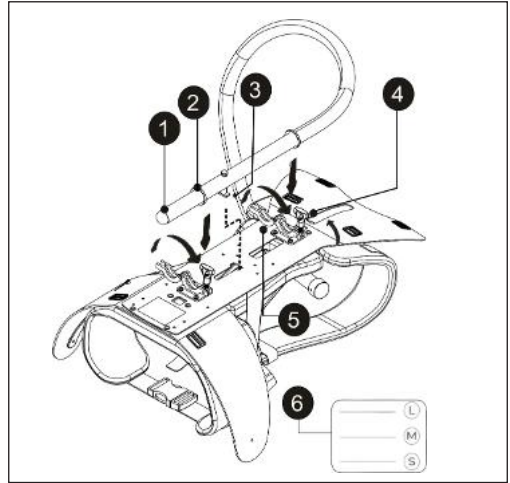
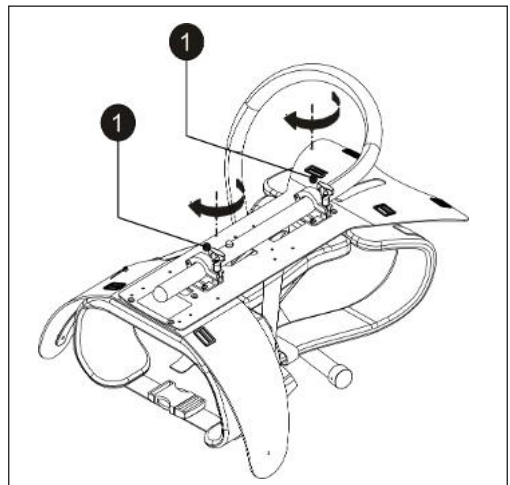

Figure 4
Figure5
2. Place the lower part of the support tube (Figure 4, pos. 1) in the opened mounting clamps (Figure 4, pos. 5), with the safety hook (Figure 4, pos. 3) in the opening of the harness.
3. Push the tube to the desired working height: Large, Medium or Small (Figure 4, pos. 6).
4. Make sure to put the rubber rings (Figure 4, pos. 2) into the mounting clamps.
5. Close the mounting clamps (Figure 4, pos. 4) and tighten the fasteners (Figure 5, pos. 1).